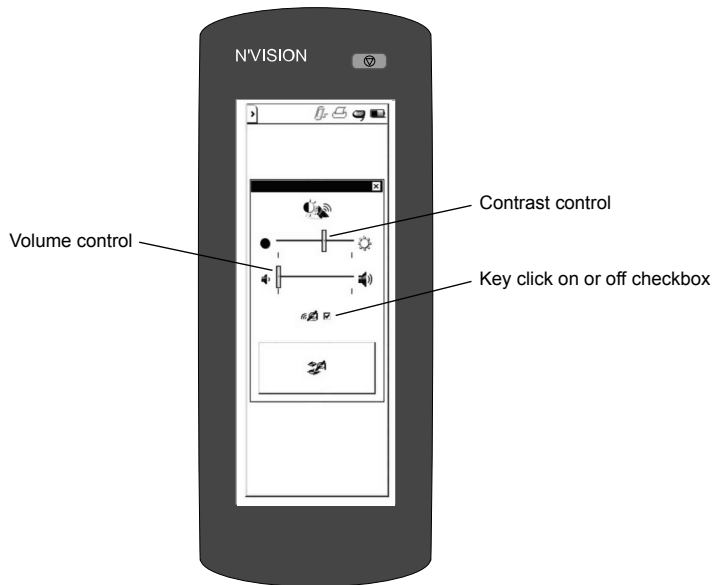

Figure 28. Programmer settings screen.
3. Slide the contrast control bar to desired setting (Figure 28).
3. Slide the speaker volume control bar to desired setting (Figure 28 on page 53).
3. Select the **Key click on or off** checkbox (Figure 28 on page 53).